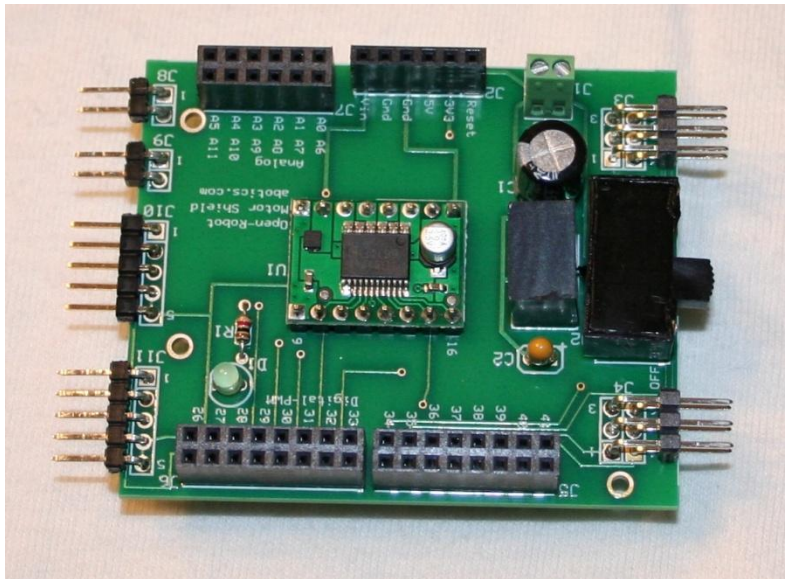

FIG 15. Solder 5x1 Right Angle Connectors, J10 & J11.
Refer to figure 15 below for how to solder right angle connectors J10 & J11. Similar to step 10 you must create (2) 5x1 right angle headers from (2) 6x1 right angle headers by breaking off (1) pin on each header.